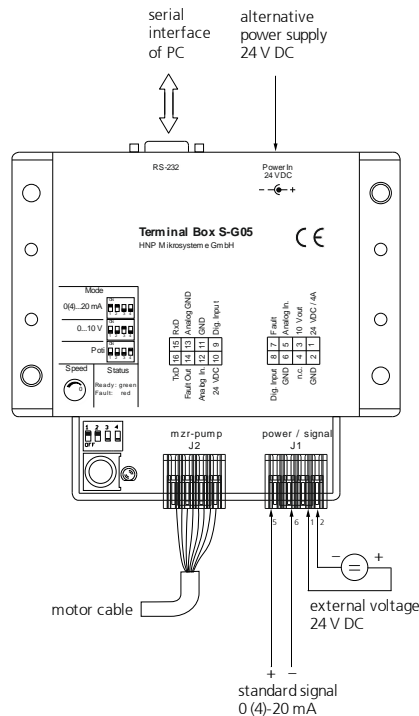

figure 11
4. Connect the external current source to the screw clamps »AnalogIn« and »GND« to the S-G05. (see figure 11).